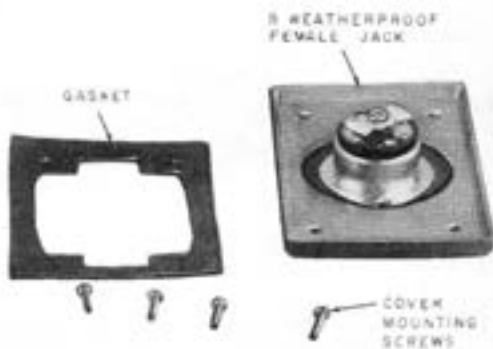

Fig. 44—B Weatherproof Male (or Female) Jack
5.07 The B weatherproof male or female jacks (Fig. 44, 45, and 46) are mounted in the B outlet box using the four mounting screws and cover gasket provided. Three screw terminals stamped T, R, and GR are provided for connections. A cord grip assembly and conduit adapter are provided with the B outlet box for use with service wire or plastic conduit.